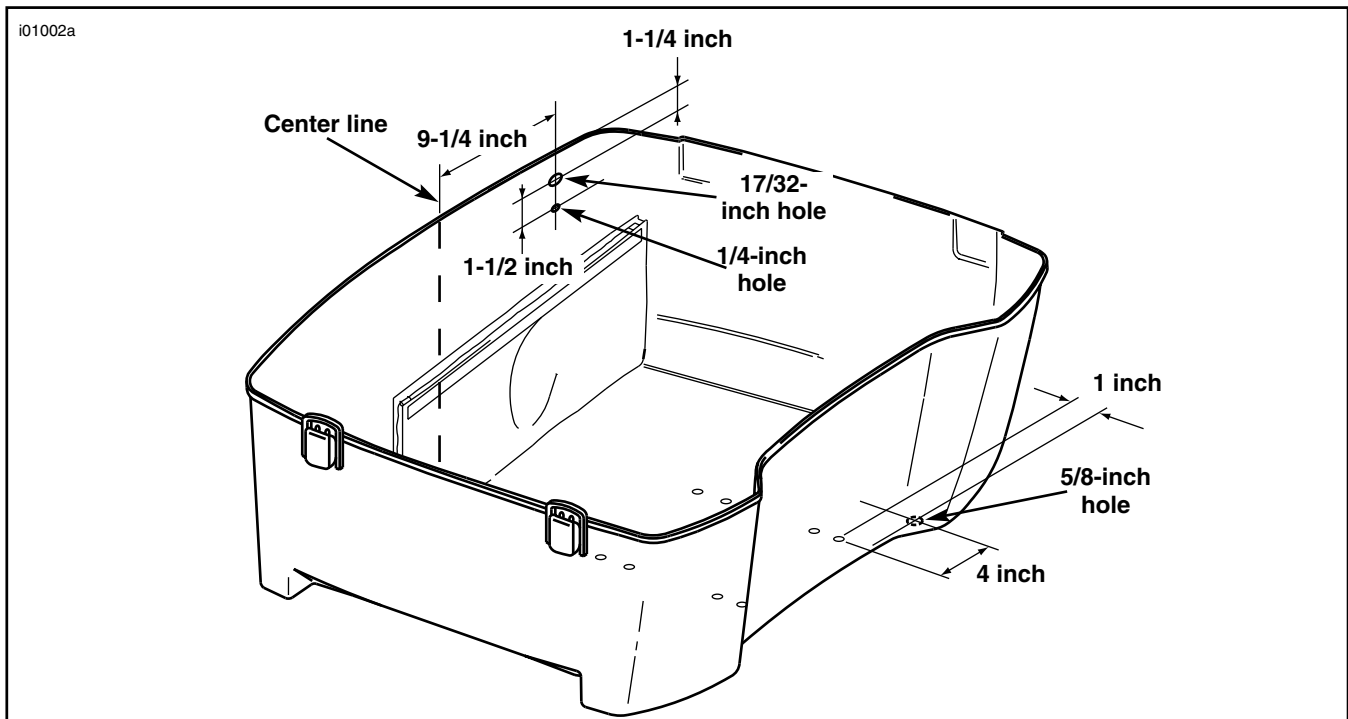

Figure 6. Drilling the Tour-Pak for Radio-Antenna Installation
1. See Figure 6. Measure the width to find the center of the Tour-Pak outside-rear wall.